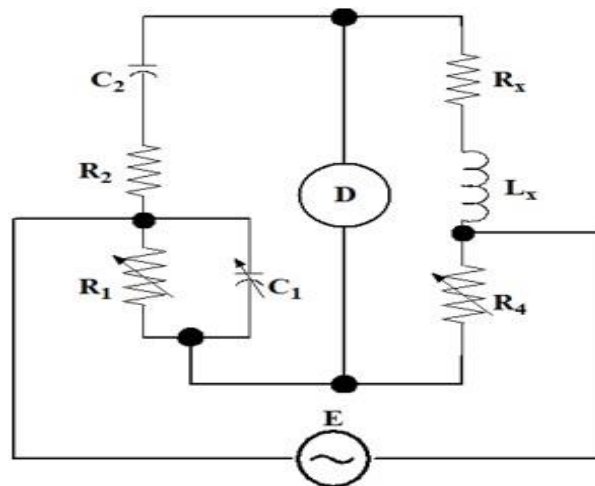

Fig Q1B
- 1B.** An AC Bridge as shown in the **Fig Q1B**, is used to measure an unknown inductance L_x , which has inherent resistance R_x . The bridge parameters are $R_1 = 20k\Omega$; $R_2 = 50k\Omega$; $C_2 = 0.0037\mu F$. The operating frequency $\omega = 10^5 rad/sec$. C_1 is adjustable from 10pF to 150pF and R_4 is adjustable from 0 to 10k Ω . Derive expressions for R_x and L_x to show that resistive and reactive balance are independent of each other. Further through appropriate analysis, determine the largest values of R_x and L_x that can be measured with given parameters.